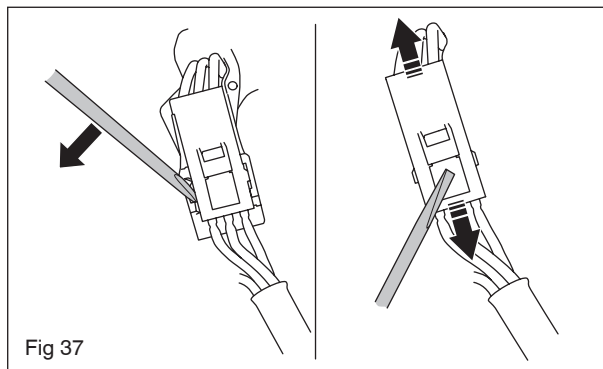

Fig 37
6. Use a small flat screwdriver to snap open the connector from the black attachment. Separate the connector by pressing down the catch with a flat screwdriver and then pulling the unit apart. See figure 37